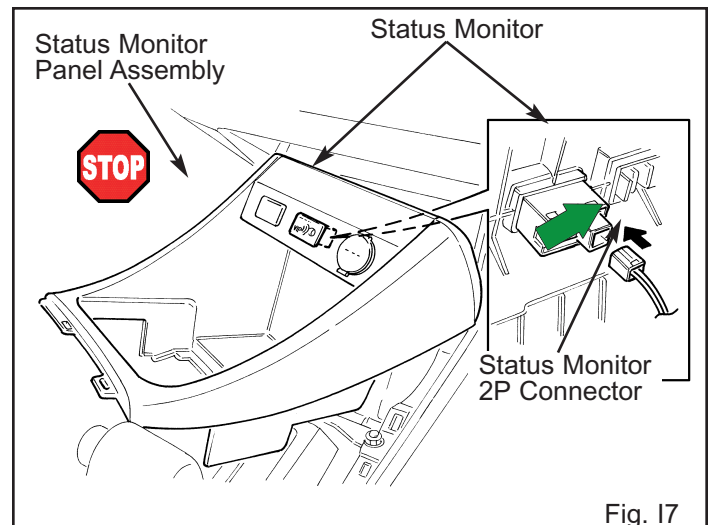

Fig. I7
7. Plug in the V3 harness' white 2P connector to the status monitor. (Fig. I7)
8. Reinstall the status monitor panel assembly into the center console. (Fig. I7)
9. Install the cup holder into the status monitor panel assembly. (Fig. I7)